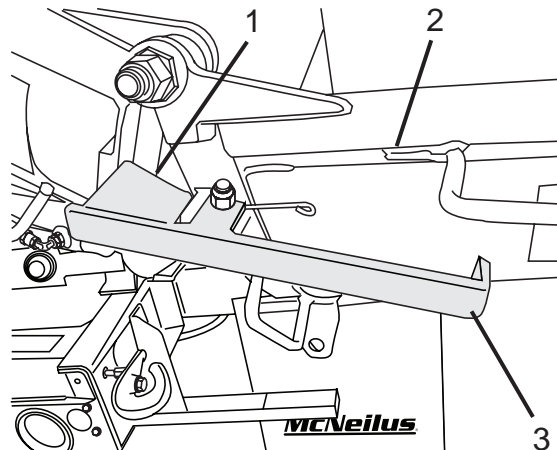

Figure 121
As the chute is unfolded, the foldover chute stop tab (Figure 121, Item 1) will make contact with the main chute, preventing the chute from slamming down against the main chute.
1. Support the fold-over chute (Figure 121, Item 2).
2. Depress the handle (Figure 121, Item 3) until the stop tab (Figure 121, Item 1) clears the main chute, and lower the fold-over chute.